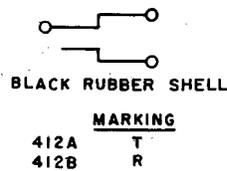

Fig. 8—412-Type Plug
2.08 412A, B, and C: The 412-type (Fig. 8) are test plugs designed to plug into a receptacle on the 1A1-type protector units.